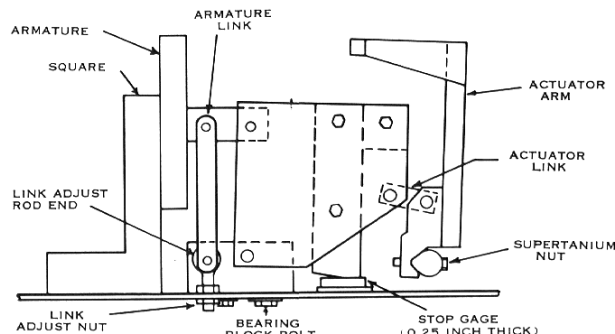

Fig. 57. Armature linkage assembly
- (a) Loosen the bearing block bolts; place a 0.025-inch thick gage under the stop (see Fig. 57), and rotate the actuator arm until the contact tips just kiss. Tighten the bearing block bolts to 60 to 80 ft/lb and remove the gage.